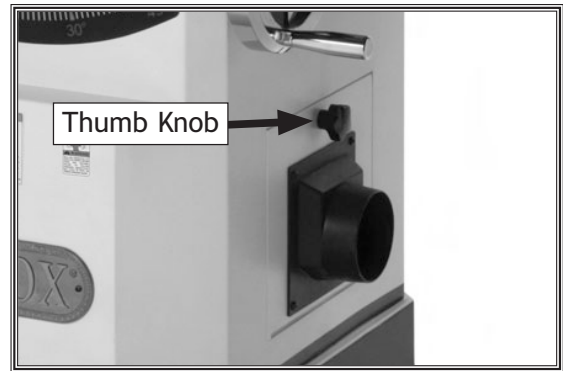

Figure 12. Dust port installed.
5. Insert the lip of the lower part of the dust port into the cabinet and tighten the thumb knob to secure (see **Figure 12**).